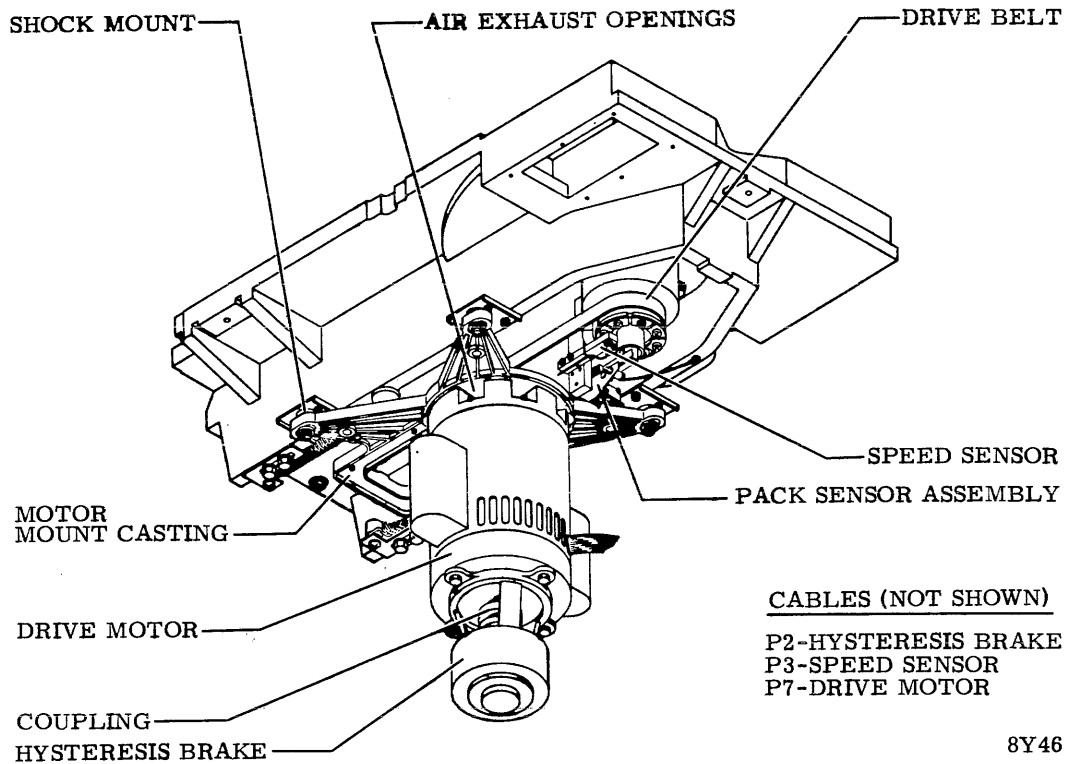

Figure 3-28.1. Drive Motor Replacement
8. Support drive motor and brake assembly from below and remove four screws holding drive motor to motor mount. Note that there are two long and two short screws. (Refer to figure 3-28.1.)